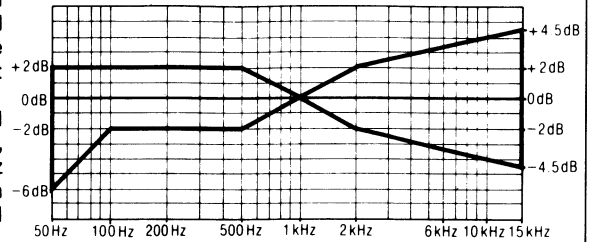

Fig. 14
8. Change test tape to CrO₂ reference blank test tape (QZZCRX), and record 1kHz, 50Hz, 100Hz, 200Hz, 500Hz, 4kHz, 8kHz, 10kHz and 15kHz signals. Then, playback the signals and check if the curve is within the limits shown in the overall frequency response chart for CrO₂ tapes (fig. 14).
9. Place UNIT into metal tape mode and change test tape to metal reference blank test tape (QZZCRZ), and record 1kHz, 50Hz, 100Hz, 200Hz, 500Hz, 4kHz, 8kHz, 10kHz, 12.5kHz and 15kHz signals. Then, playback the signals and check if the curve is within the limits shown in the overall frequency response chart for metal tapes (fig. 14).